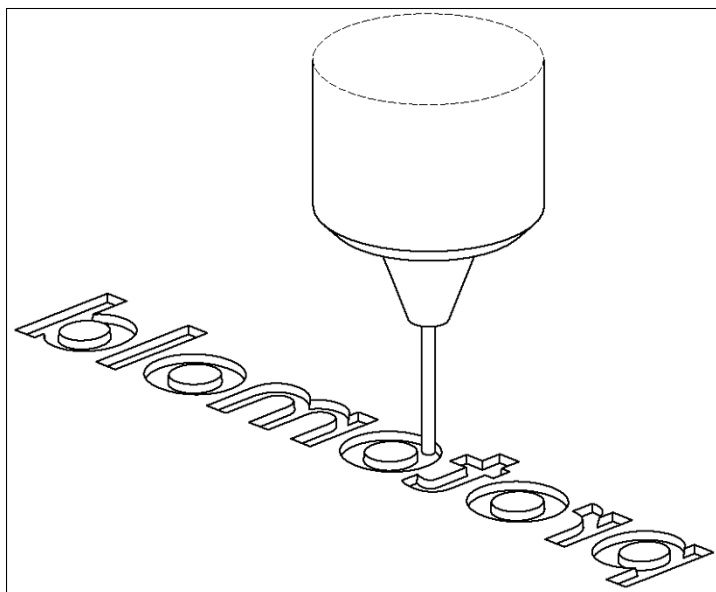

Figure 3-7: Machining text into a mould.
- ✓ **Text size:** You need to make sure that the text is large enough for the resin that you choose to fill that part of the mould. You also need to make sure that the text is large enough for the cutting tool used to make your mould to move within (see Figure 3-7). For raised text on your part, the smallest mill size used in the injection moulding process is 0.4mm.